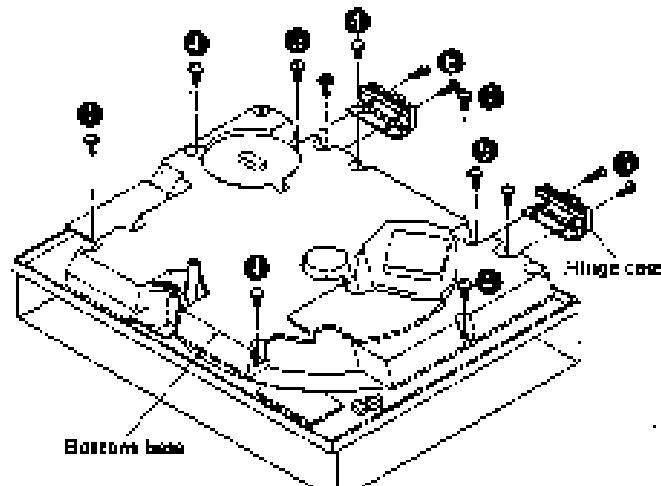

Fig. 2
- 4. Remove the 6 setscrews (Fig. 2 : ④) of the bottom base.
2. Remove the 4 setscrews (Fig. 2 : ②) of the hinge case bracket.
3. Remove the 4 setscrews (Fig. 2 : ③) of the hinge case.